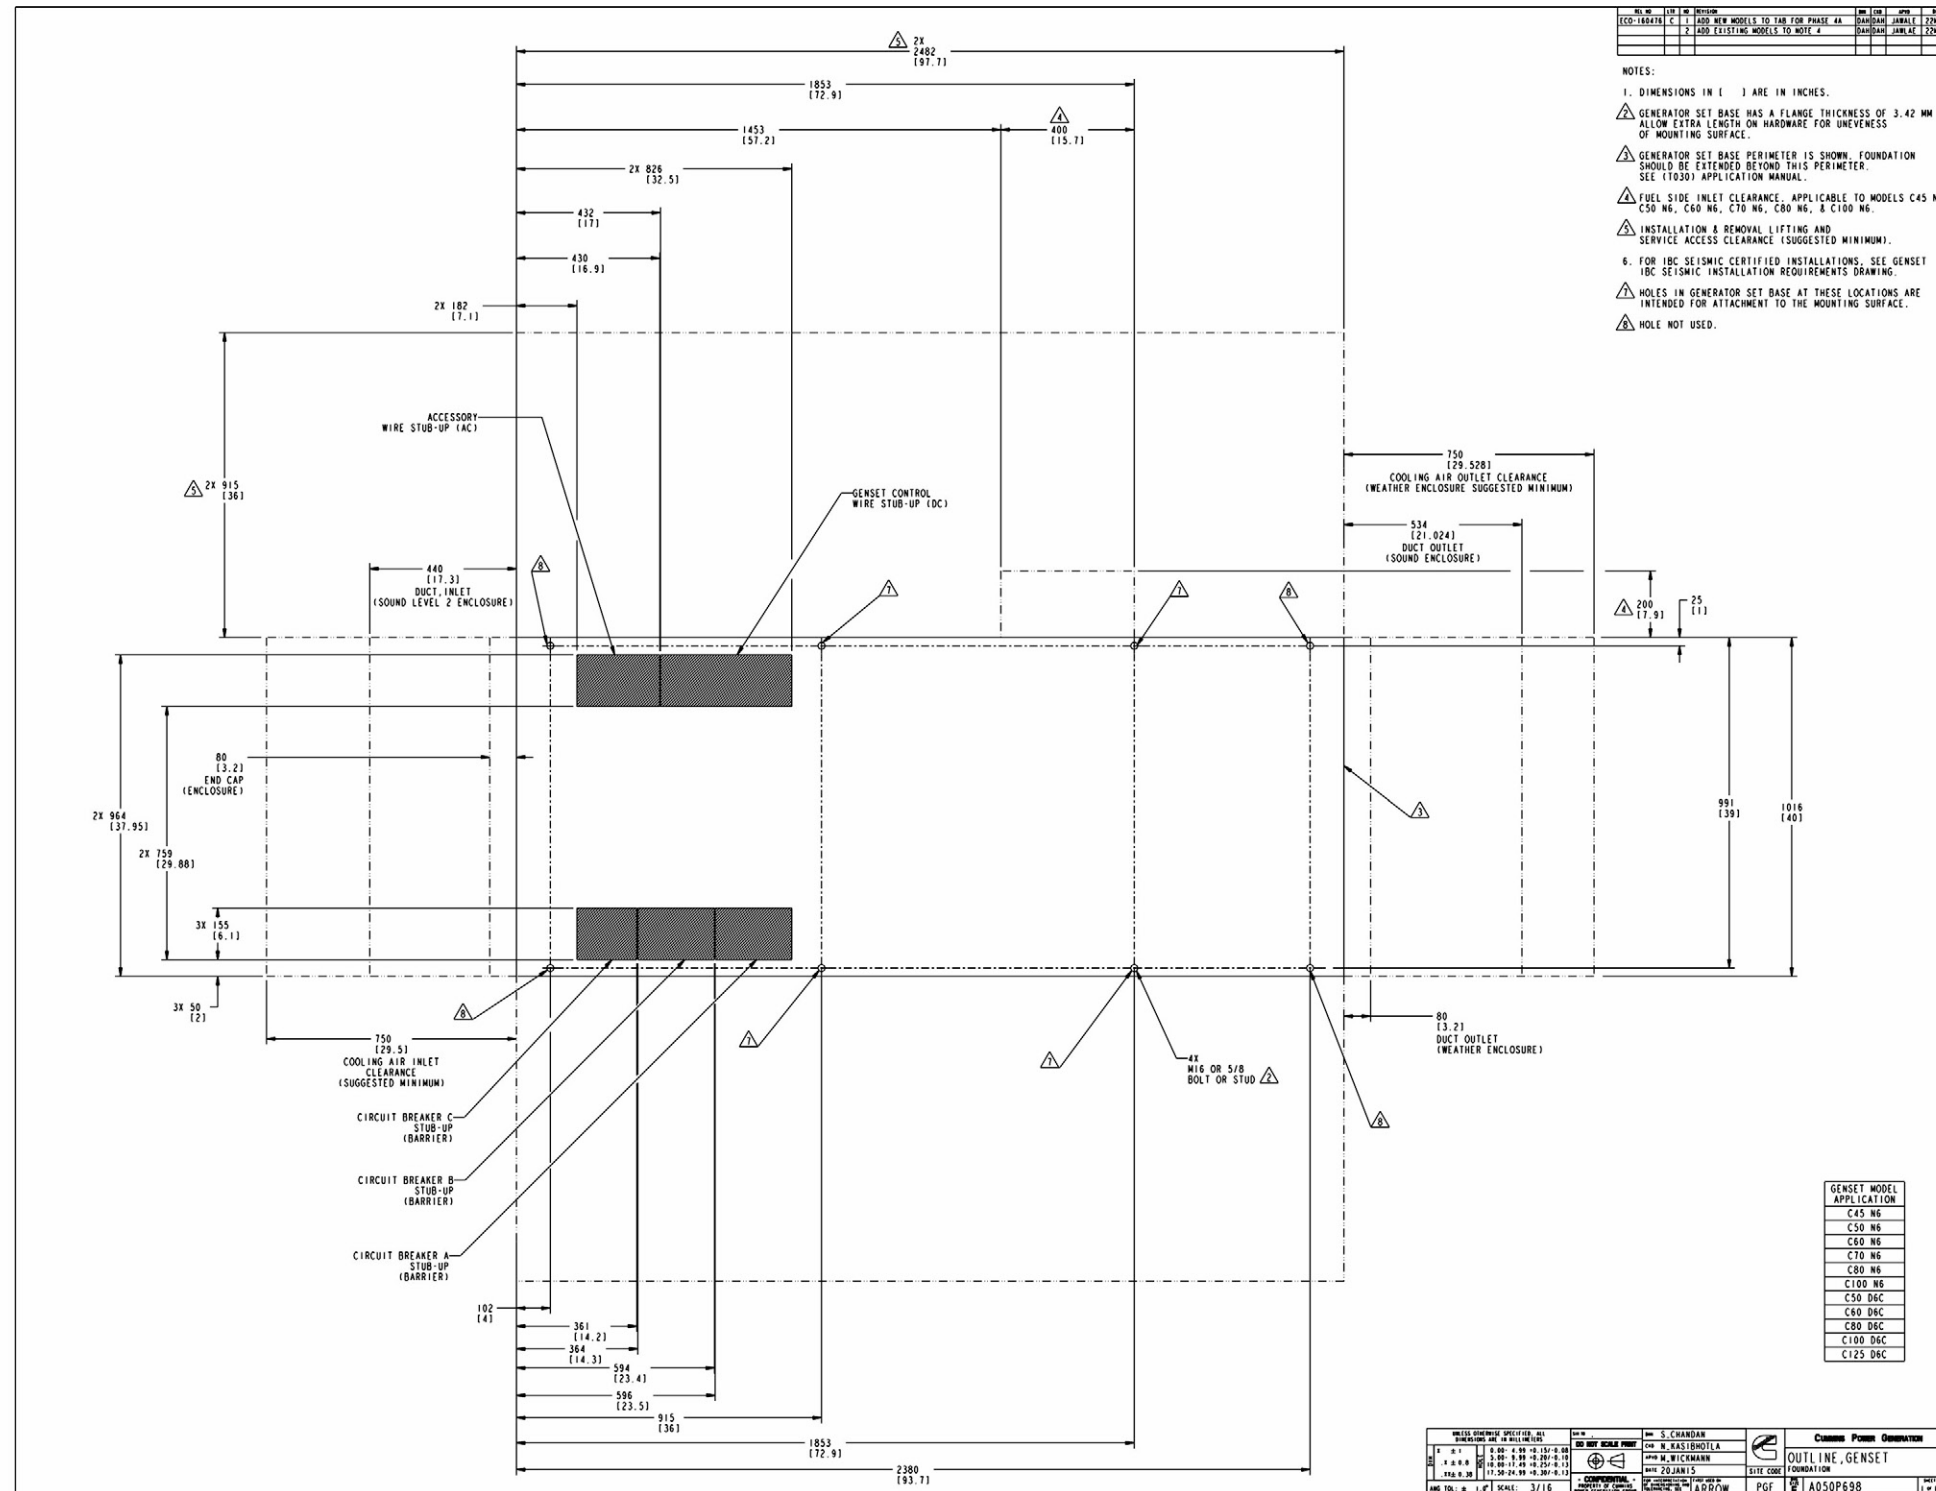

FIGURE 41. FOUNDATION OUTLINE (SHEET 1 OF 1)
- Figure 41. Foundation Outline (Sheet 1 of 1) 113